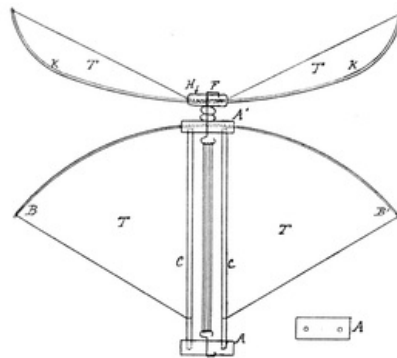

FIG. 487
**The Hawk Aeroplane** (Fig. 487) is a common flying toy worked as the above by elastic. Cut two blocks of wood, A, A'; make holes in them as shown. Into the square holes fix and glue two square rods C. Through A' bore a hole for the piece of cane, B B', to pass through. F is a wire spindle with a hook at one end for elastic; it passes through the hole in block A', through two beads, and through a piece of cork, F, into which it must be fixed. K is a piece of cane bent as in diagram, passing through a hole in cork, H. The bend is more *permanent* if the cane is held to the spout of a boiling kettle; the ends of K should be slightly warped in opposite directions. Into block A another wire hook is fixed and bands of elastic are passed over this hook and the opposite one, as in the diagram; the more bands the better.